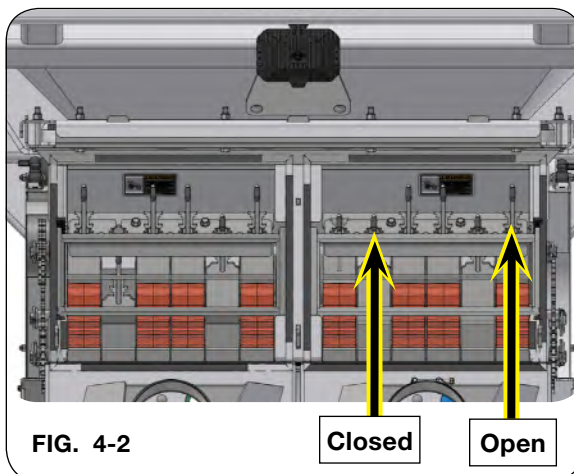

FIG. 4-2
4. Close **ALL** the agitator meter doors. (FIG. 4-2)